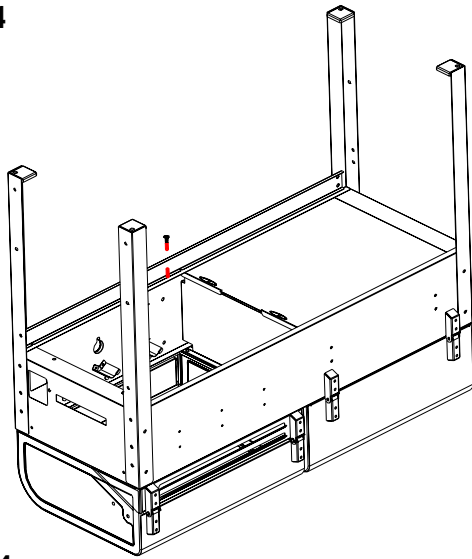

Fig. 4
Refer to Fig. 4 and fix the Front Frame to the MIDDLE of Gas and Charcoal Cabinet with Lids using (1) ST4.0x10 screw.